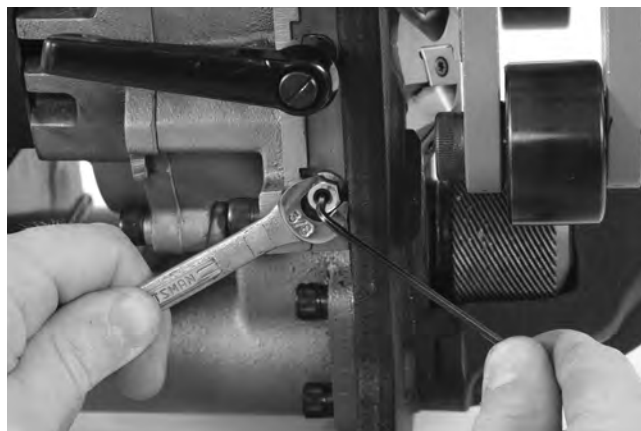

Figure 27 – Gib Plate Adjustment
5. While holding set screws in place with the hex key, tighten the jam nuts (*Figure 27*).